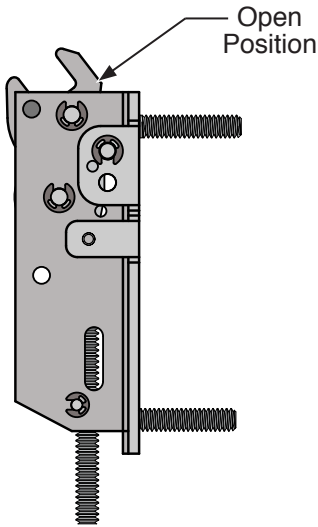
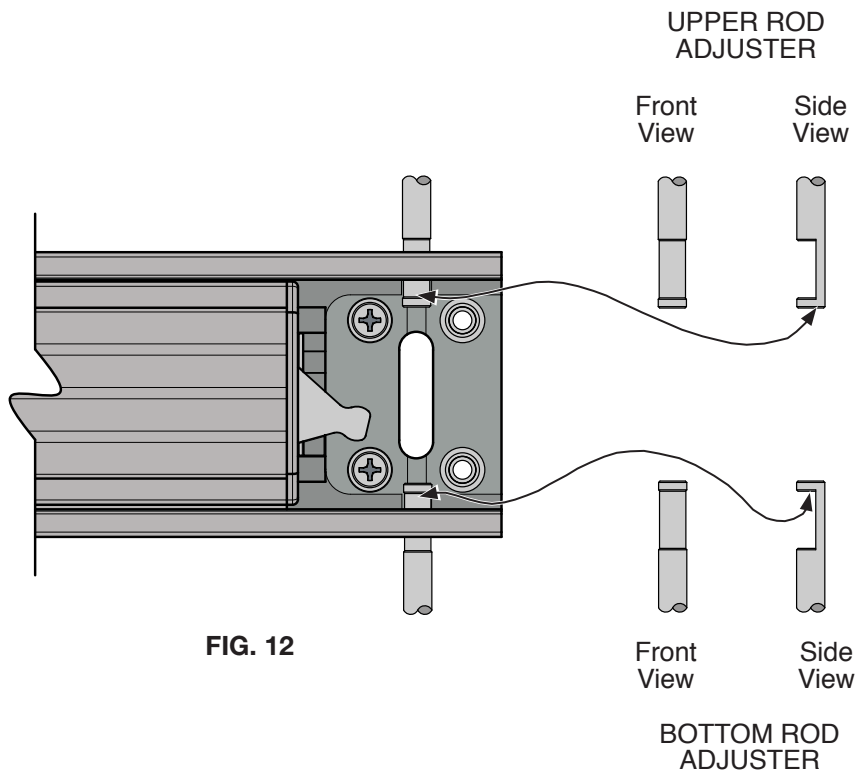

FIG. 10
FIG. 12
1. The top latch must be in the open position. (Fig. 10)
2. Turn the adjuster rod so that the end is aligned with the top line marking, just under the words "TOP LATCH" and the rod cut out is facing towards you. (Fig.12)
2. Turn the adjuster rod so that the top edge of the cut-out aligns with the line marking just under the word "LATCH" and the rod cut out is facing towards you. (Fig.12)
Depress the push bar to assure free movement of the cruciform assembly. Both upper and bottom latches should activate to the open position. The upper latch should drop into the open position, figure 10. The bottom latch should fully retract. If the latches fail to operate as described, review the rod linkage adjustments on page 13. Verify that the latch and rod adjuster positions align with the markings on the panic bar per (Fig. 12).